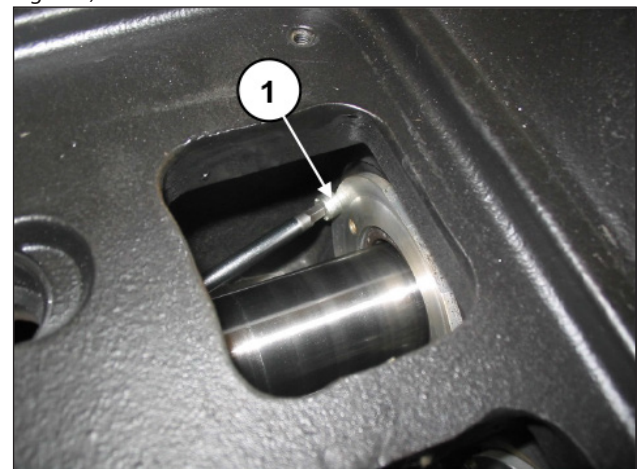

Fig. 113
If you need to replace the piston guide seal ring, you need to remove the oil seal cover as follows: Unscrew the two screws locking the oil seal cover (pos. ①, Fig. 113).